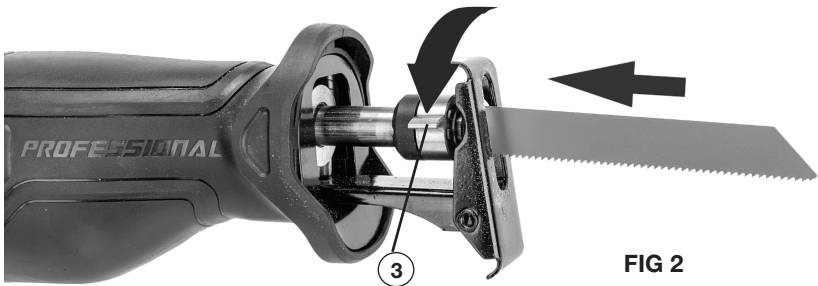

FIG 2
INSTALLING AND REMOVING THE SAW BLADE (FIG 2)
To Install a Blade, rotate the quick-release blade clamp (3) as far as it will go in the direction as shown in FIG 2 (counterclockwise if facing the saw). Slip the new blade into blade clamp as far as it will go. Release the blade clamp. The new blade should now be securely fastened.